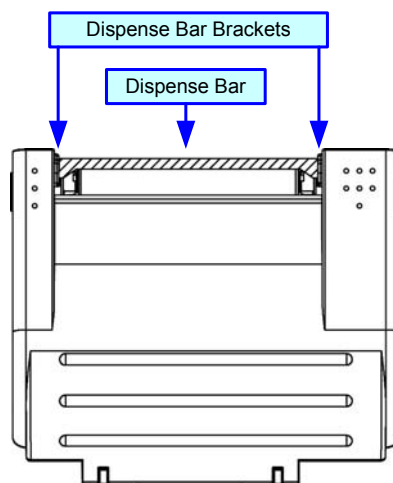

Figure 7-2c, Dispense Bar Replacement
- 6 Assemble the replacement dispense bar in the orientation as the original prior to removal (Figure 7-2c).